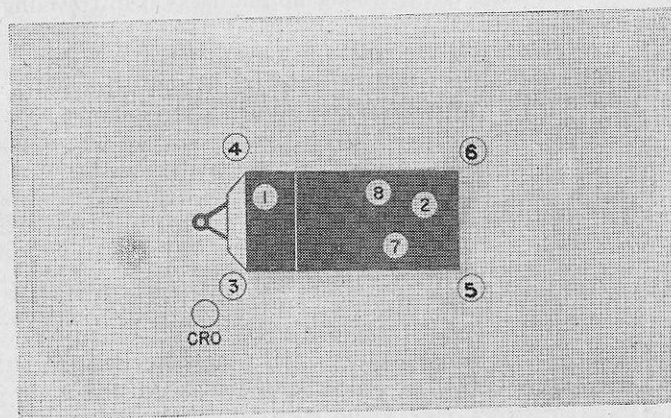

FIGURE 56.—Initial positions for the command MARCH ORDER.
- 3, 4, 5, 6, obtain one jack handle each from rack under shelf in trailer cab and take stations indicated in figure 56. Working in unison, they lower trailer until all weight is off each jack.